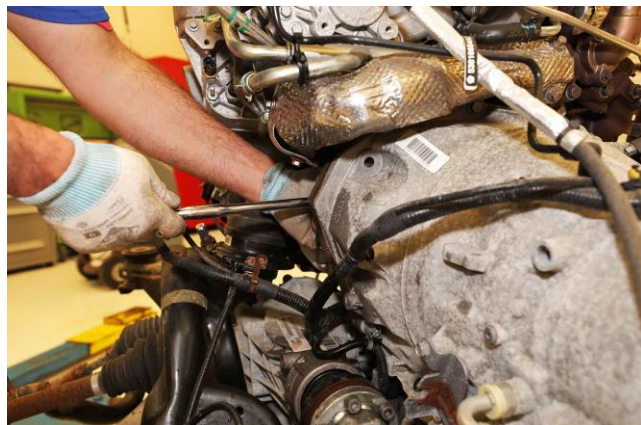

Figure 39 – Torque Converter Bolts
- 82. While holding the crank, remove the torque converter bolts through the start motor opening (Figure 39).